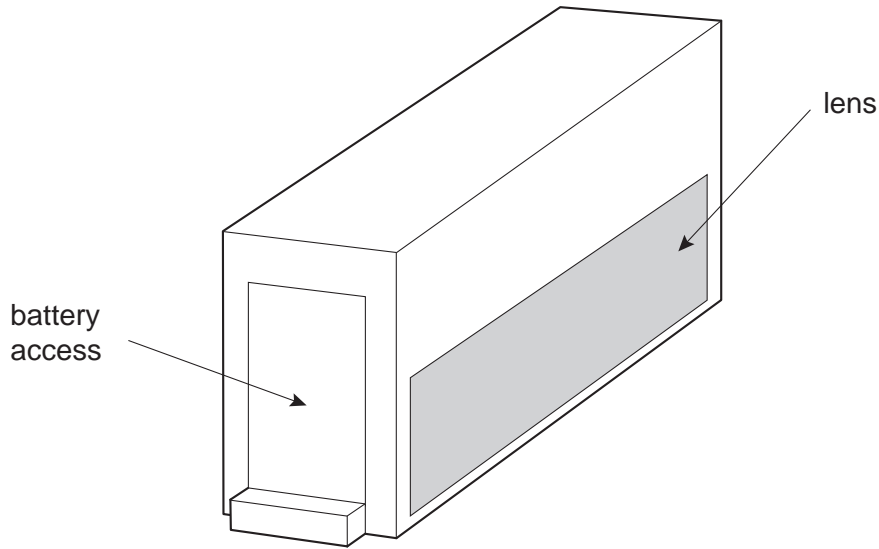

Fig. 13
Fig. 13 shows a design for a lighting enclosure that holds the circuit and a 9 v battery.
- (i) Add sketches and labels to Fig. 13 to show a way of temporary attachment of the enclosure to the music stand. [4]